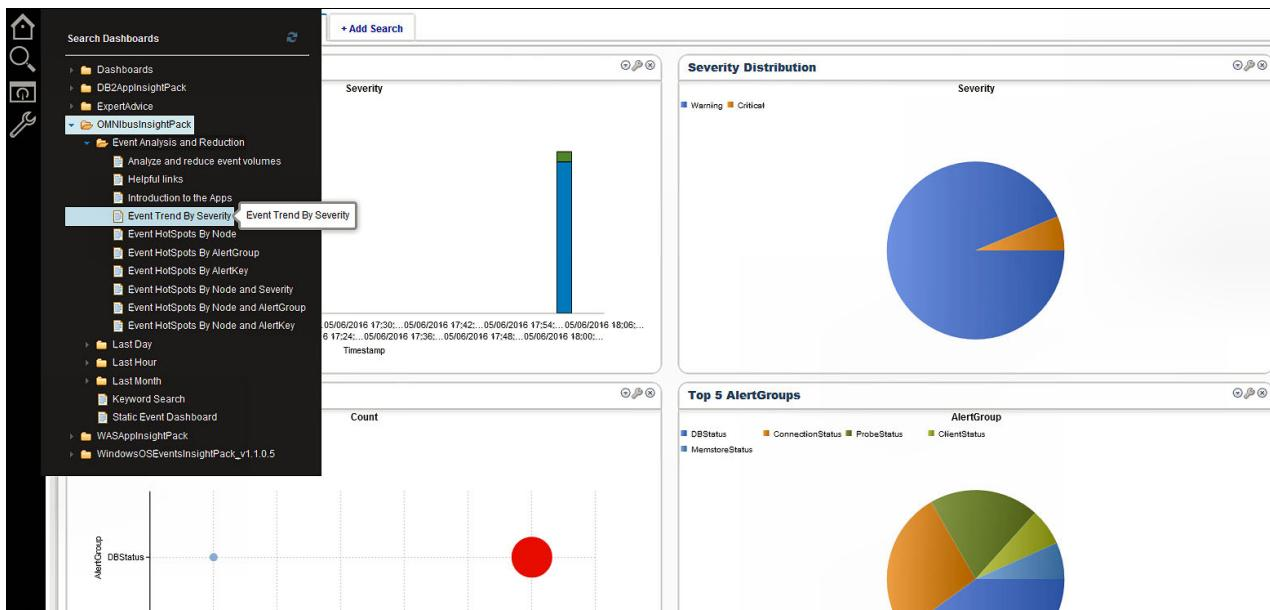

Figure 7-5 Event Trend by Severity menu
- Jane opens IBM Operations Analytics - Log Analysis console to see the event rate chart. She starts the Event Trend By Severity view by clicking **Search Dashboards** → **OMNIBusInsightPack** → **Event Analysis and Reduction** → **Event Trend By Severity** from the left top menu, as shown in Figure 7-5.